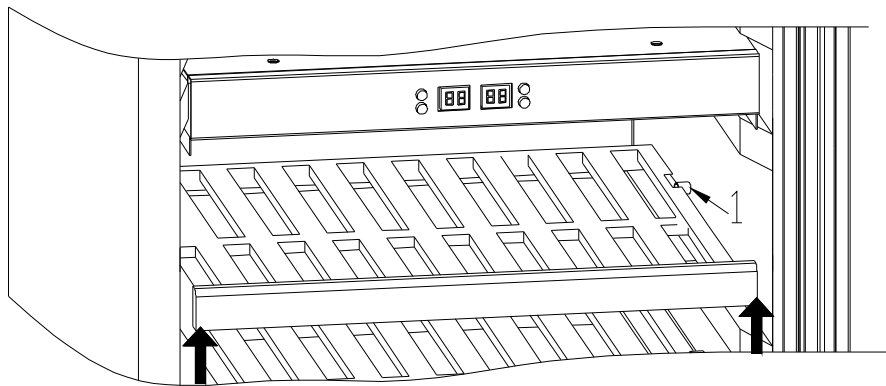
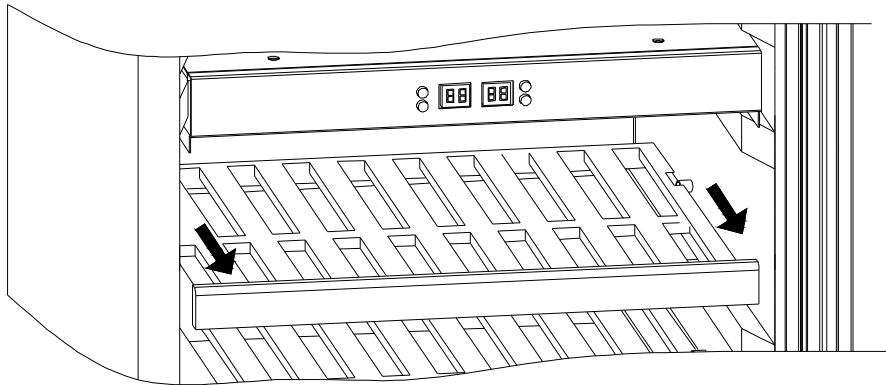

Fig.3
Fig.3.1
c. Drive up the shelves make it above the fixer 1 (Fig.3), then take it out according to the arrowhead Fdirection(Fig.3.1)